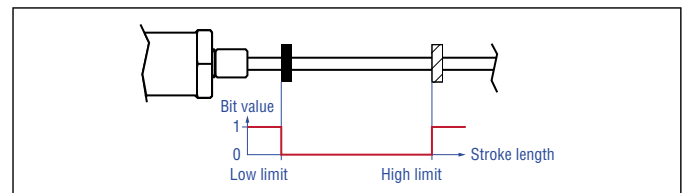

Fig. 72: Switching points for R-Series V PROFINET with linear profile
- **Sensor status 2:** This module indicates when a high limit is exceeded or a low limit is not reached. The switching points mark the beginning and the end of a work area (Fig. 72). According to Fig. 73, the status of the switching points is displayed via bits 0 and 1 of this module.